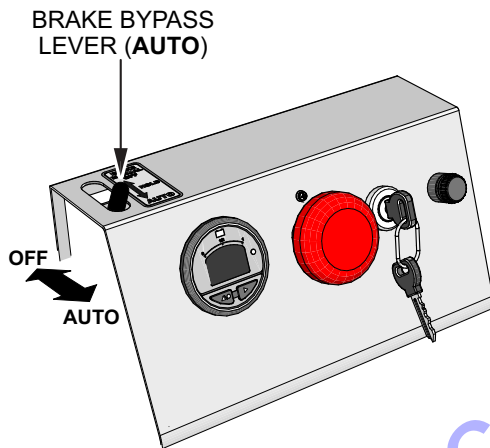

Figure 22. Brake Bypass Lever (Auto)
1. Place the brake bypass lever (Figure 22) in the **AUTO** position. If the lever is left in the **ON** (free-wheel) position, the buggy will not move when the forward/reverse speed control lever is activated.